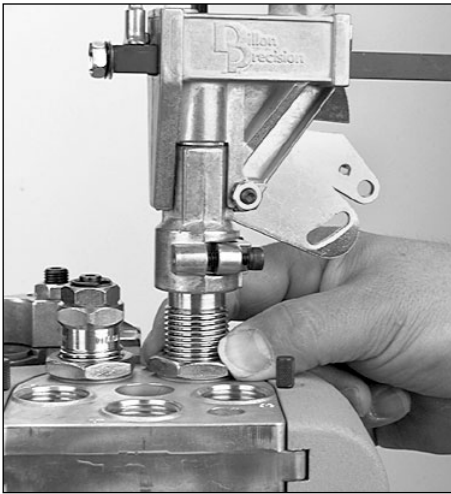

FIG 44
6. Once you've achieved the desired amount of bell – with the case in Station 2, raise the platform. Run the locking down hand tight **FIG 44**.